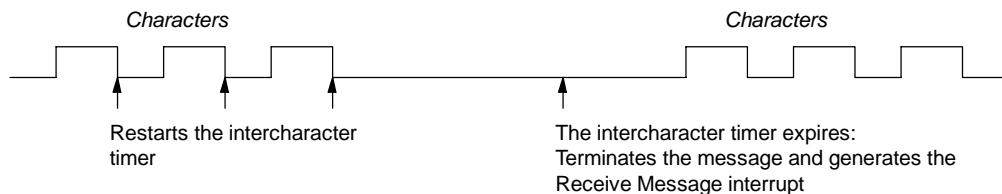

Figure 6-12 Using the Intercharacter Timer to Terminate the Receive Instruction
2. *Intercharacter timer:* The intercharacter time is the time measured from the end of one character (the stop bit) to the end of the next character (the stop bit). If the time between characters (including the second character) exceeds the number of milliseconds specified in SMW92 or SMW192, the receive message function is terminated. The intercharacter timer is restarted on each character received. See Figure 6-12.